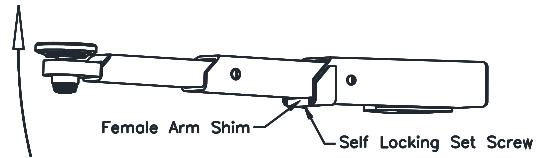

Fig. 18 – Arm Shim, 3-Stage
- 62) Extend the arm fully and lift up on the male portion, **Fig. 18**.